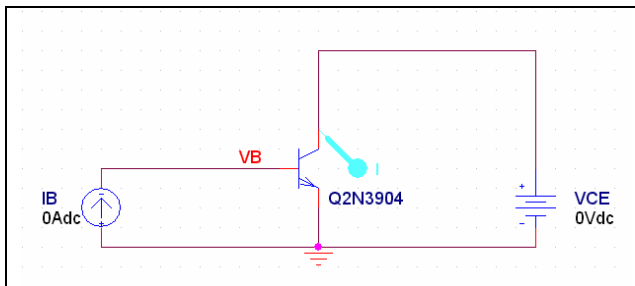
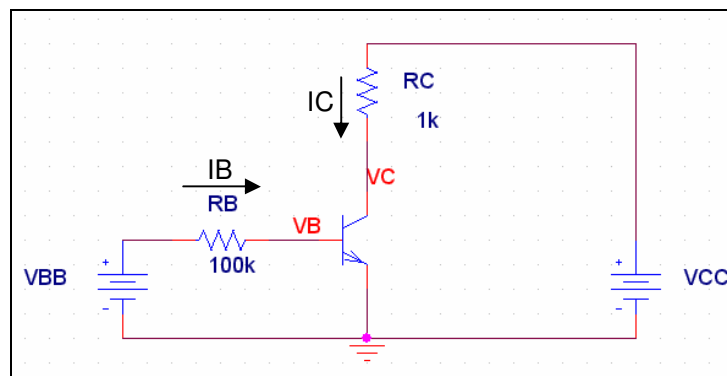

Figure P.1- Circuit to generate I_C vs. V_{CE} curve (I_B curves)
Figure L.1 – Test circuit to generate family of IV-curves for an NPN BJT
3. Build & simulate the circuit in figure P.1 using SPICE
In the prelab you generated an IV-Curve for the 2N3904 using the schematic in figure P.1. You were able to generate base current I_B in the range of 0 to $50\mu A$. In the lab, the power supply can behave as a current source, but it cannot produce a current as small as $50\mu A$. To create the same family of IV-Curve in the lab, we must use the circuit in figure L.1. The voltage source combined with the $100k\Omega$ resistor at the base will behave as the 0 to $50\mu A$ current source from figure P.1.
- Build the circuit depicted in figure L.1 using the 2N3904 BJT